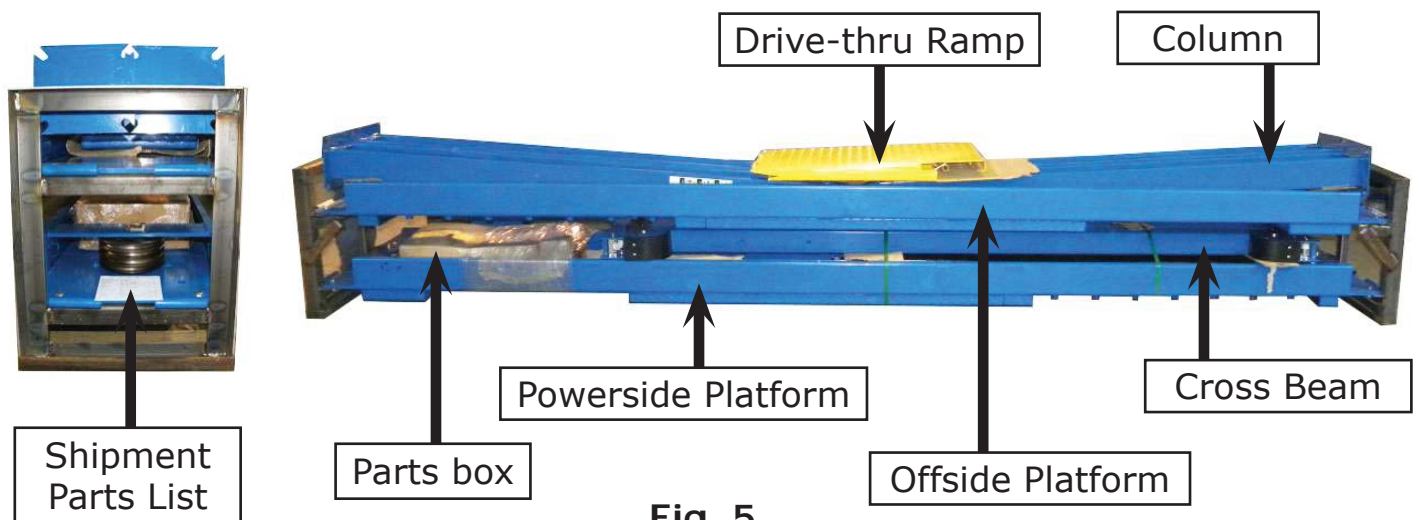

Fig. 5
2. Open the outer packing carefully (See Fig. 5).